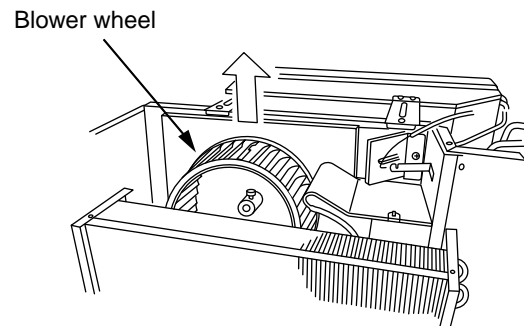

Fig. 12
(3) Remove the blower wheel from the unit. (Fig. 12)